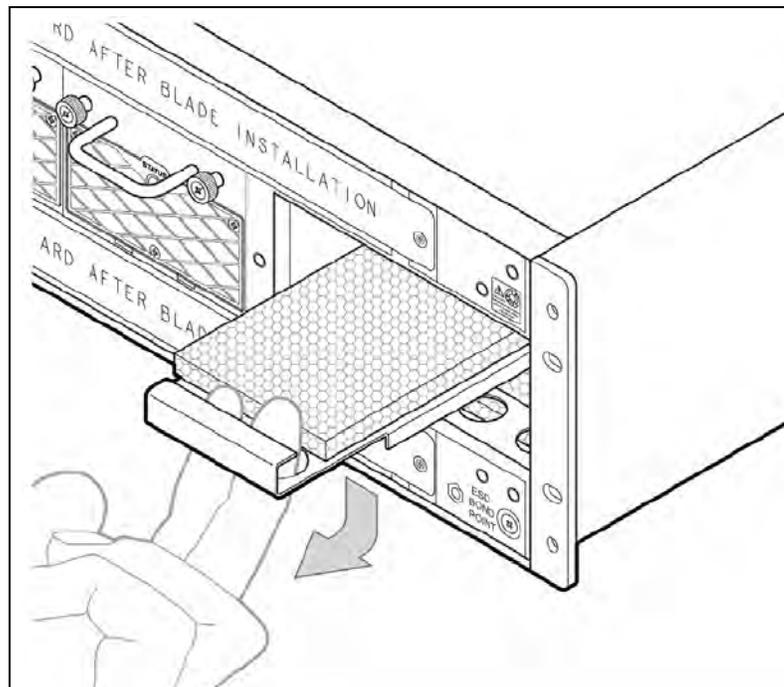

Figure 5.10 - Top Air Filter Frame Removal
6. Pull the frame carefully out of the chassis (**Figure 5.10**).